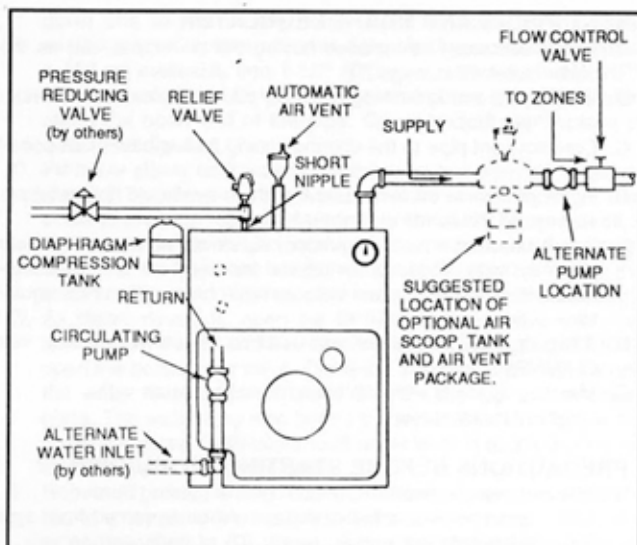
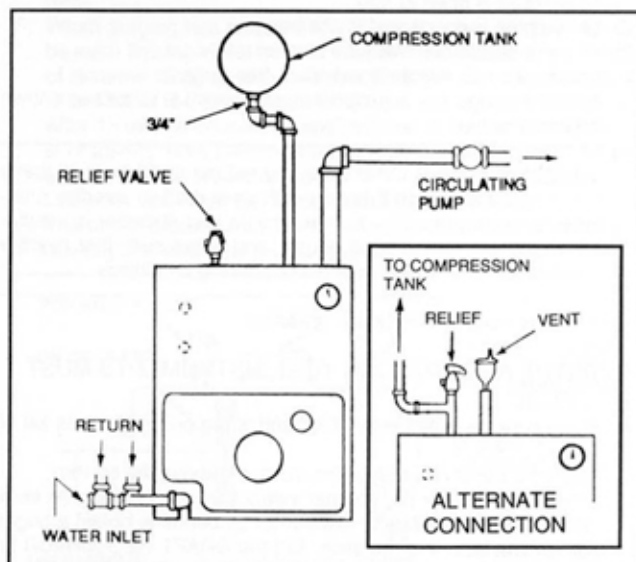

Figure 6. Air Eliminating System
Figure 7. Air Collecting System
- B. A FLOW CONTROL VALVE (See figure 6) will prevent gravity circulation and usually is required when tankless heater is installed.
- A. DIAPHRAGM-TYPE COMPRESSION TANKS are used to control system pressure in an AIR ELIMINATING SYSTEM: an automatic air vent is used to REMOVE air from the system water. See figure 6. If system pressure needs further control, add an additional tank or install a larger capacity tank. The automatic air vent should be installed in the top of the boiler, as in figure 6.
parallel with the original tank or install a large capacity tank. Locate the tank at the inlet end of the pump near the boiler. (See figure 7)
- D. **PUMP LOCATION** - Locating low-head pump(s) on return to boiler is acceptable for smaller boiler sizes in residences of one or two stories. (See figure 6) The pump location shown in figure 7 is required in large, multi-story building installations, especially when high-head pumps are used.
- E. A conventional compression tank may be connected to the 3/4" tapping as shown in figure 7.
The circulator pump should be located on the boiler supply pipe and the expansion tank and air scoop should be located near the pump suction. (See Figure 6, Alternate Pump Location.)